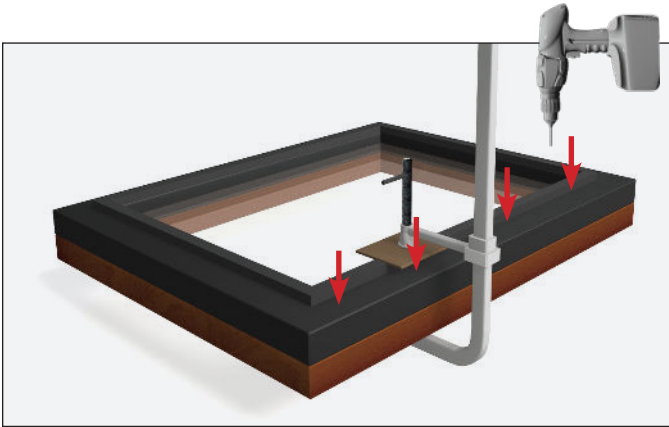

FIG. 6. Be sure to NOT drill through the panel's front.
7. Clamp the door and panel. See fig. 6
8. Carefully drill pilot holes into the panel. See fig. 6.